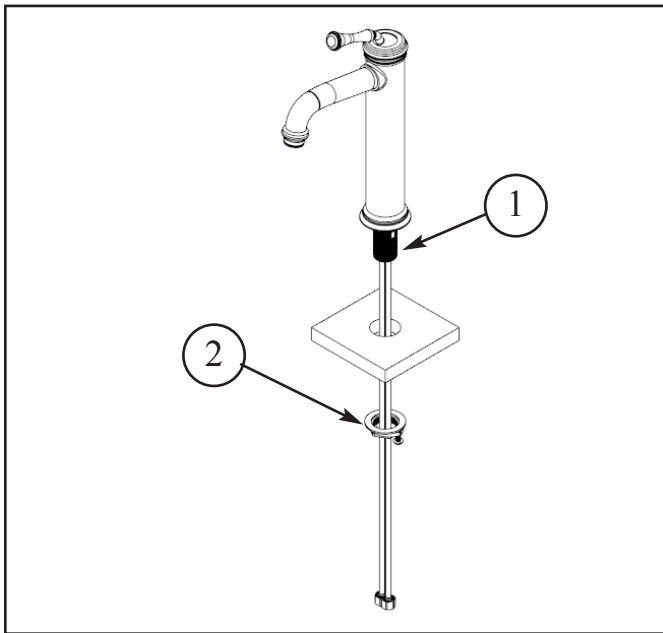

Figure 1
1. Place the spout hoses, one at a time, and secure spout into place with NIPPLE(1) and MOUNTING KIT(2). See Fig. 1